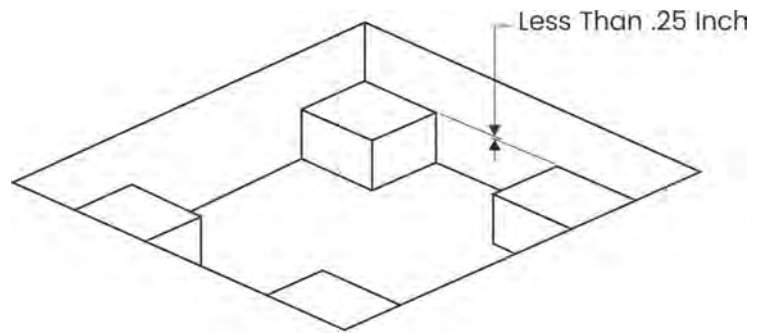

Figure 6
3. The maximum difference in elevation between foundation piers should not exceed 0.25 inch (See Figure 6). The leveling feature in Vibro/Dynamics Isolators will compensate for any remaining difference. Excessive differences, beyond the isolator's adjustment range, could result in machine elevations being too high or too low. Recommended practice to overcome excessive differences in pier elevations is to insert spacer plates between the isolators and the machine feet. Longer leveling screws may be required!